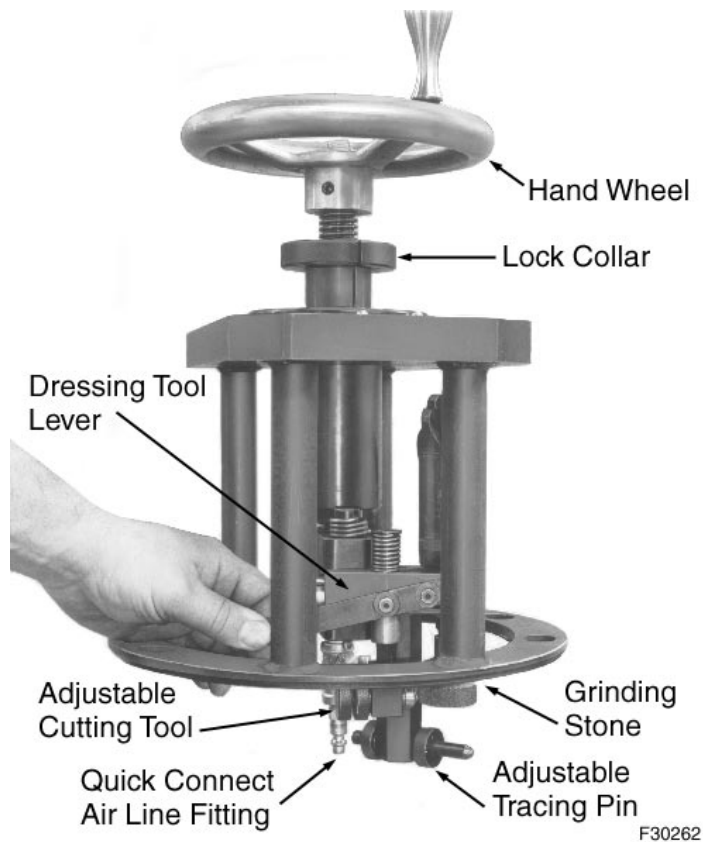

Figure 4-8. Grinding Unit Preparations
2. Connect air line assembly through an air port in the side of the liner to the quick connect fitting in the pipe tee on the lower end of the grinder spindle, Figure 4-8. on page 4-9. Engage and adjust tracer to contact the area immediately below wear ridge for profile reference during grinding.
3. Inspect grinding stone to be certain it is clean and square. Dress stone, if required, using tool provided on the unit by running the air motor in the retracted position. Move dressing tool up and down across the stone using spring loaded actuating lever, Figure 4-8. Adjust cutting tool dress cut depth with thumb screw adjustment and lock nuts provided. If necessary, clean stone further with a wire brush to remove loose particles during grinding procedure.